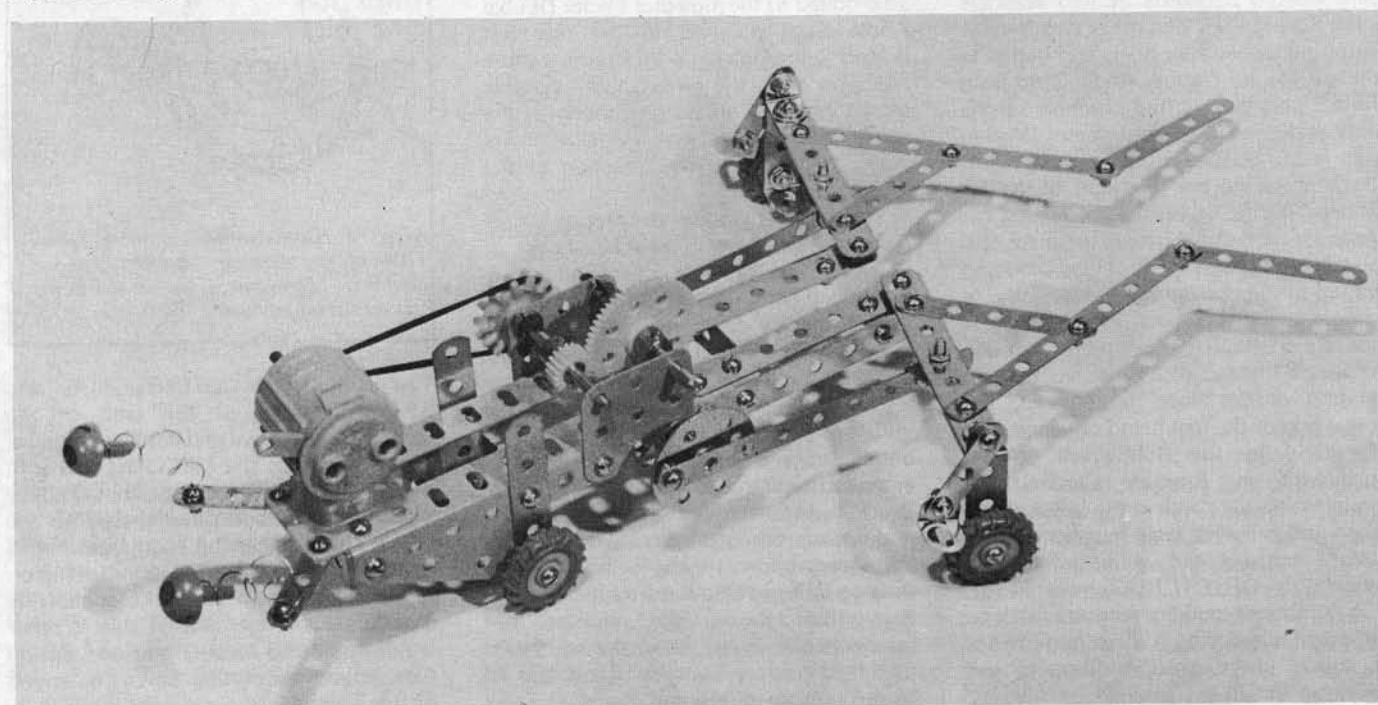
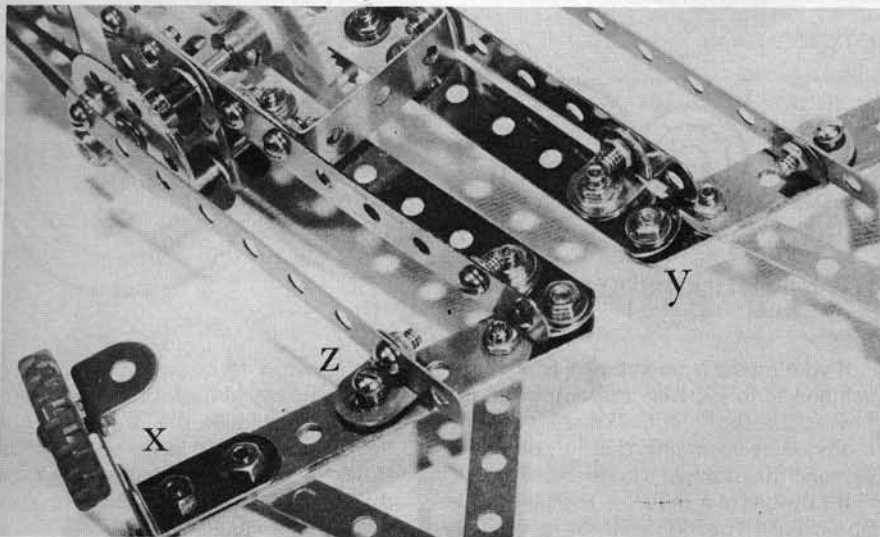

Fig 10 Space Skate
Fig 10a Space Skate re-inforcements
Yet another mode of propulsion is found in the SPACE SKATE shown in Fig. 10 and is best described as a 'waddling' action obtained from outrigger legs driven by connecting rods at each side but this time, the Bush Wheels are 180° out of phase. Construction is similar to that of the manual model but extra 3 1/2 in. Strips (still within the set contents) are bolted at the sides of the chassis, extended to the rear and fixed by 1/2 in. Brackets to the upper Strips to form a girder-like rear extension. This gives stronger supports for the swinging arms. A close-up from below the model, seen in Fig. 10a, shows the various re-inforcements built into the author's modified version. Each swinging arm is made from three layers of Strips, the top two being 3 1/2 in. Strips and the bottom one is 2 1/2 in. To prevent the wheel legs from twisting, a 1 in. x 1/2 in. Bracket is fixed in the position shown in Fig. 10a at (X) and one of its Bolts holds an overhead 1/2 in. Bracket for the brake arm, at each side of the model. Lock-nut method BC2 is used at point (Y) to give a clean but not too sloppy pivot for the arms. Note that the 4 1/2 in. Narrow Strips acting as connecting rods from the Bush Wheels are not bent, sufficient 'play' being available at the Bush Wheel lock-nutted Bolt and in the slotted lug of the 1/2 in. Bracket shown at (Z). Again, BC2 construction is used when lock-nutting.